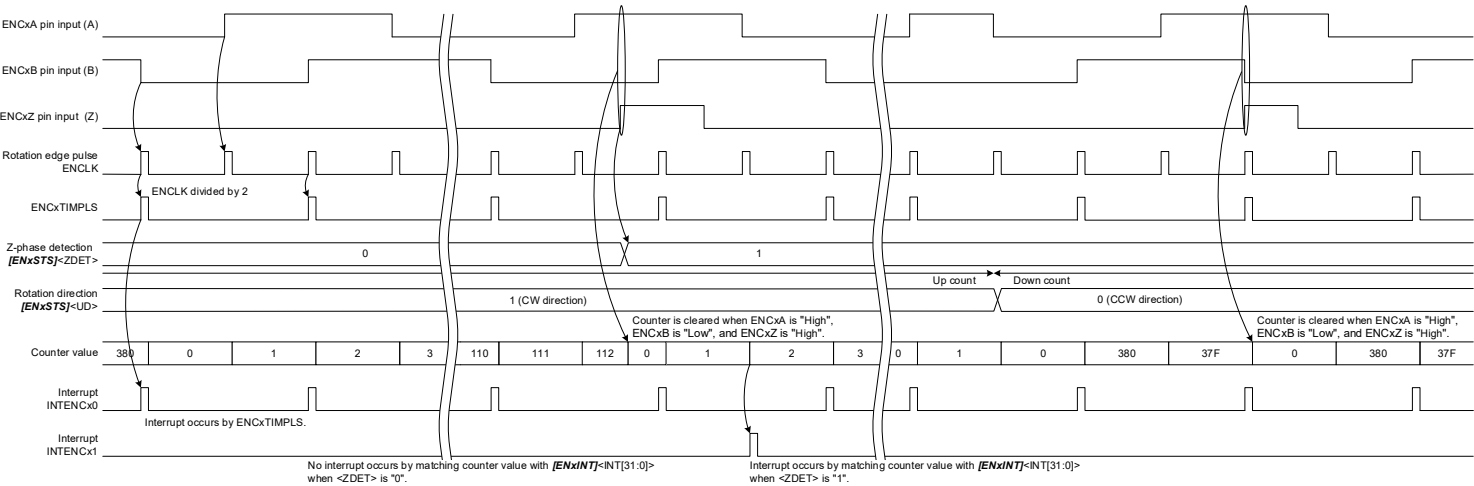
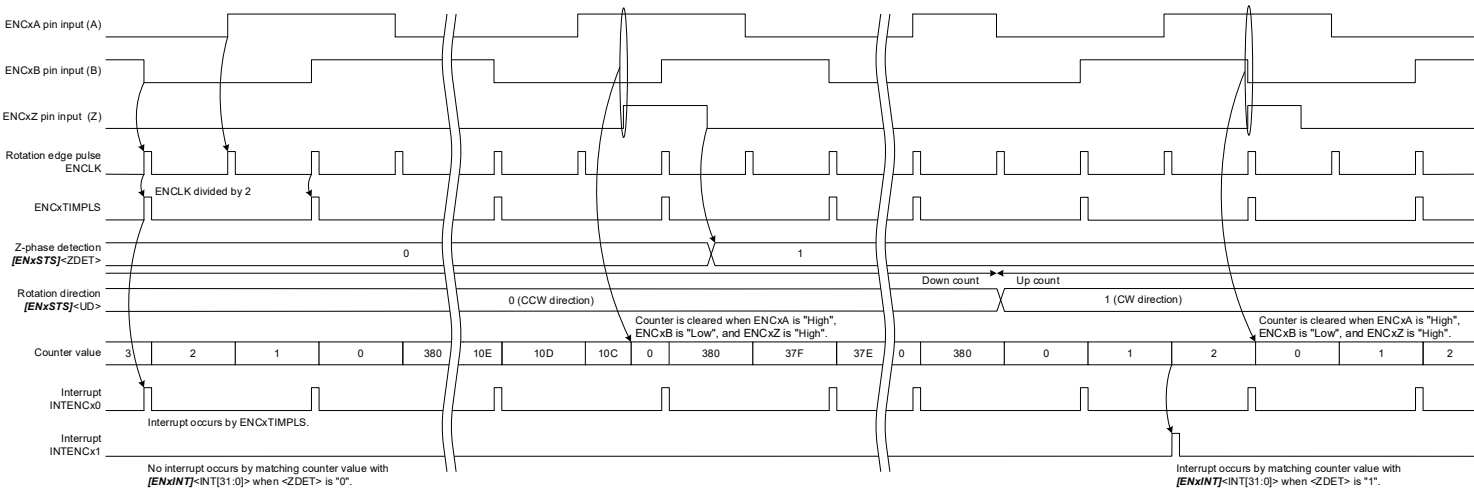

Figure 3.1 CW Direction Means State that ENCxA Pin Input is Leading 90 Degrees Ahead of ENCxB Pin Input in Phase. (when [ENxTNCr2]<ABREV> is "0")
Figure 3.2 CW Direction Means State that ENCxA Pin Input is Lagging 90 Degrees Behind of ENCxB Pin Input in Phase. (when [ENxTNCr2]<ABREV> is "1")
Figure 3.1 and Figure 3.2 are shown as the example of operation when ENCxZ pin input is enabled and a rotation direction is reversed midway.
- (1) When ENCxA pin input is "High", ENCxB pin input is "Low", and ENCxZ pin input is "High", the counter is cleared. ($[ENxTNCR]<ZEN> = 1$, $[ENxTNCR]<ZEACT> = 0$, $[ENxTNCR]<ABZCLRVAL[2:0]> = 101$)
- (2) When the value of counter becomes "0x000000002", an INT matching interrupt occurs. ($[ENxINT]<INT[31:0]> = 0x00000002$, $[ENxINTCR]<CMPIE> = 1$)
- (3) The ENCxTIMPLS divided ENCLK by 2 is generated and the interrupt synchronized with ENCxTIMPLS occurs. ($[ENxTNCR]<ENDEV[2:0]> = 001$, $[ENxINTCR]<TPLSIE> = 1$)
- (4) When the value of counter becomes "0x000000380", the counter is cleared. ($[ENxRELOAD]<RELOAD[31:0]> = 0x00000380$.)
- (5) Rotation direction
- (a) The state of ENCxA and ENCxB pin inputs are defined as CW direction when the ENCxA pin input is leading 90 degrees ahead of ENCxB pin input in phase. At this time, the counter counts up. The state when the ENCxA pin input is lagging 90 degrees behind ENCxB pin input is defined as CCW direction and the counter counts down. ($[ENxTNCR2]<ABREV> = 0$) ("Figure 3.1 CW Direction Means State that ENCxA Pin Input is Leading 90 Degrees Ahead of ENCxB Pin Input in Phase. (when $[ENxTNCR2]<ABREV>$ is "0")")
- (b) The state of ENCxA and ENCxB pin inputs are defined as CW direction when the ENCxA pin input is lagging 90 degrees behind of ENCxB pin input in phase. At this time, the counter counts up. The state when the ENCxA pin input is leading 90 degrees ahead of ENCxB pin input in phase is defined as CCW direction and the counter counts down. ($[ENxTNCR2]<ABREV> = 1$) ("Figure 3.2 CW Direction Means State that ENCxA Pin Input is Lagging 90 Degrees Behind of ENCxB Pin Input in Phase. (when $[ENxTNCR2]<ABREV>$ is "1")")